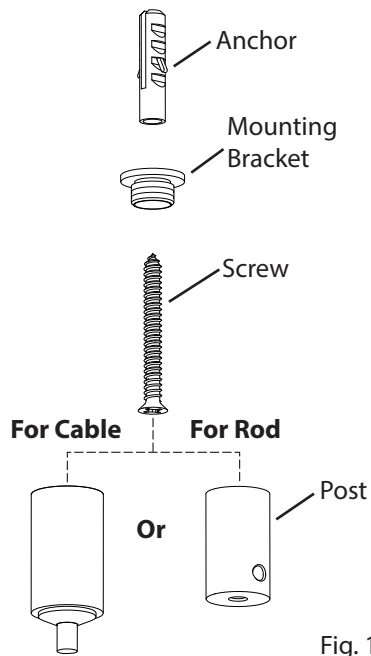

Fig. 1
1. Install the **Mounting Bracket** to the ceiling with **Anchor** (if appropriate) and **Screw**, then screw the **Post** onto the Mounting Bracket (Fig. 1).